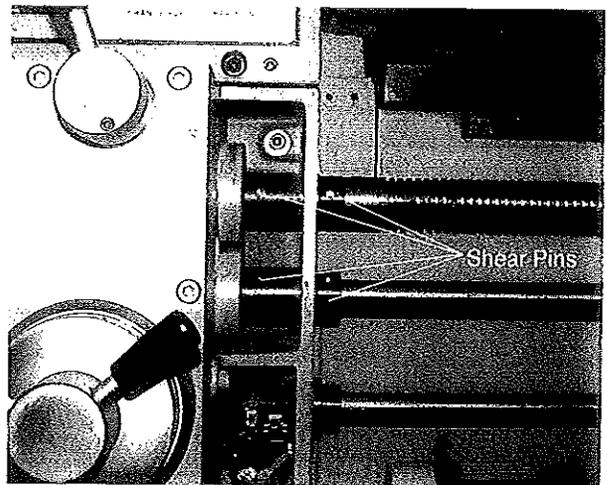

Figure 4
2. If the gearbox is in order and the feed or lead screws are not turning check the shear pins. (There are two shear pins on each shaft). ( **Figure 4** )